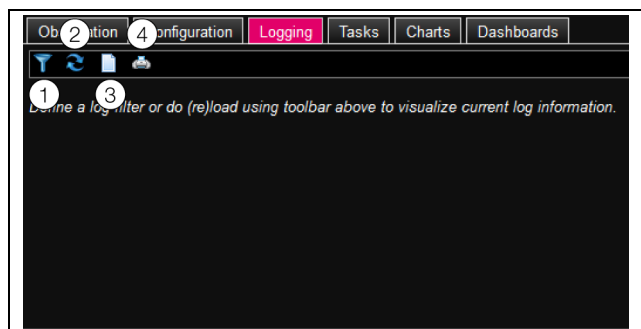

Fig. 35: Logging tab
- Click the first symbol on the left (fig. 35, item 1).
- Click the second symbol on the left (fig. 35, item 2).
- Click the fourth icon from the left (fig. 35, item 4).
- Click the third symbol on the left (fig. 35, item 3).